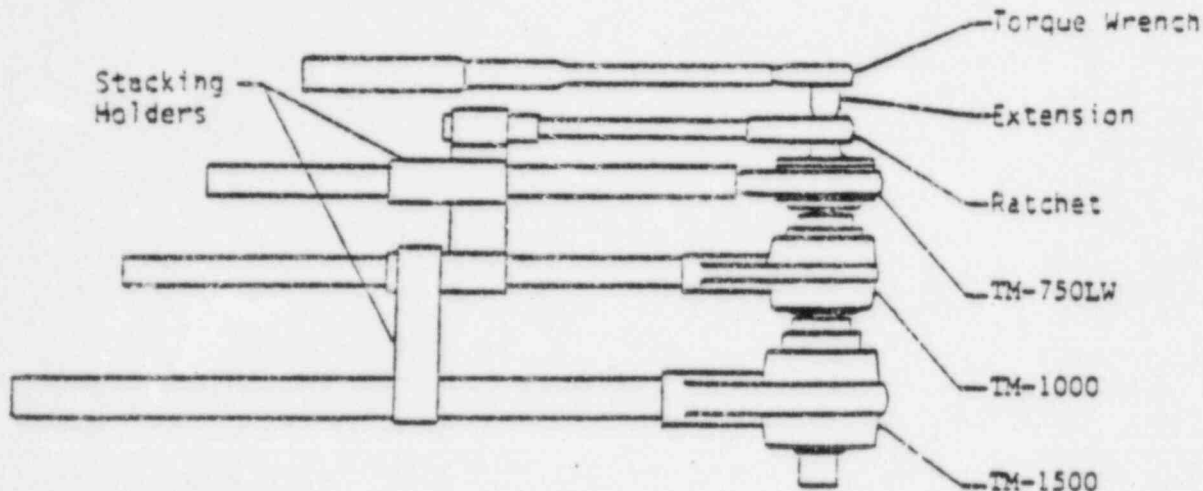

Figure 3: Williams Torque Multiplier Wrench Arrangement
- c. When extreme torque values are required and space and/or manpower is limited, two or more torque multipliers may be used in tandem (Figure 3). The ratio between the actual torque on the fastener and the torque shown on the torque wrench dial is determined by the "Actual Mechanical Advantage" of the combination of multipliers as shown in Table 2.